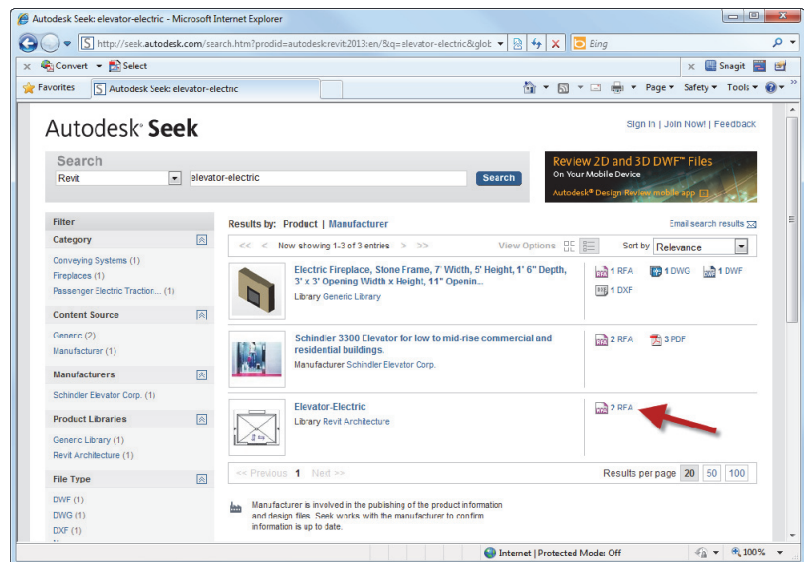

FIGURE 3-4.2 Seek.Autodesk.com
Your browser will open and you will be looking at the contents of Revit's Seek.Autodesk.com website (Figure 3-4.2).
4. Click the **2 RFA** icon highlighted in Figure 3-4.2.